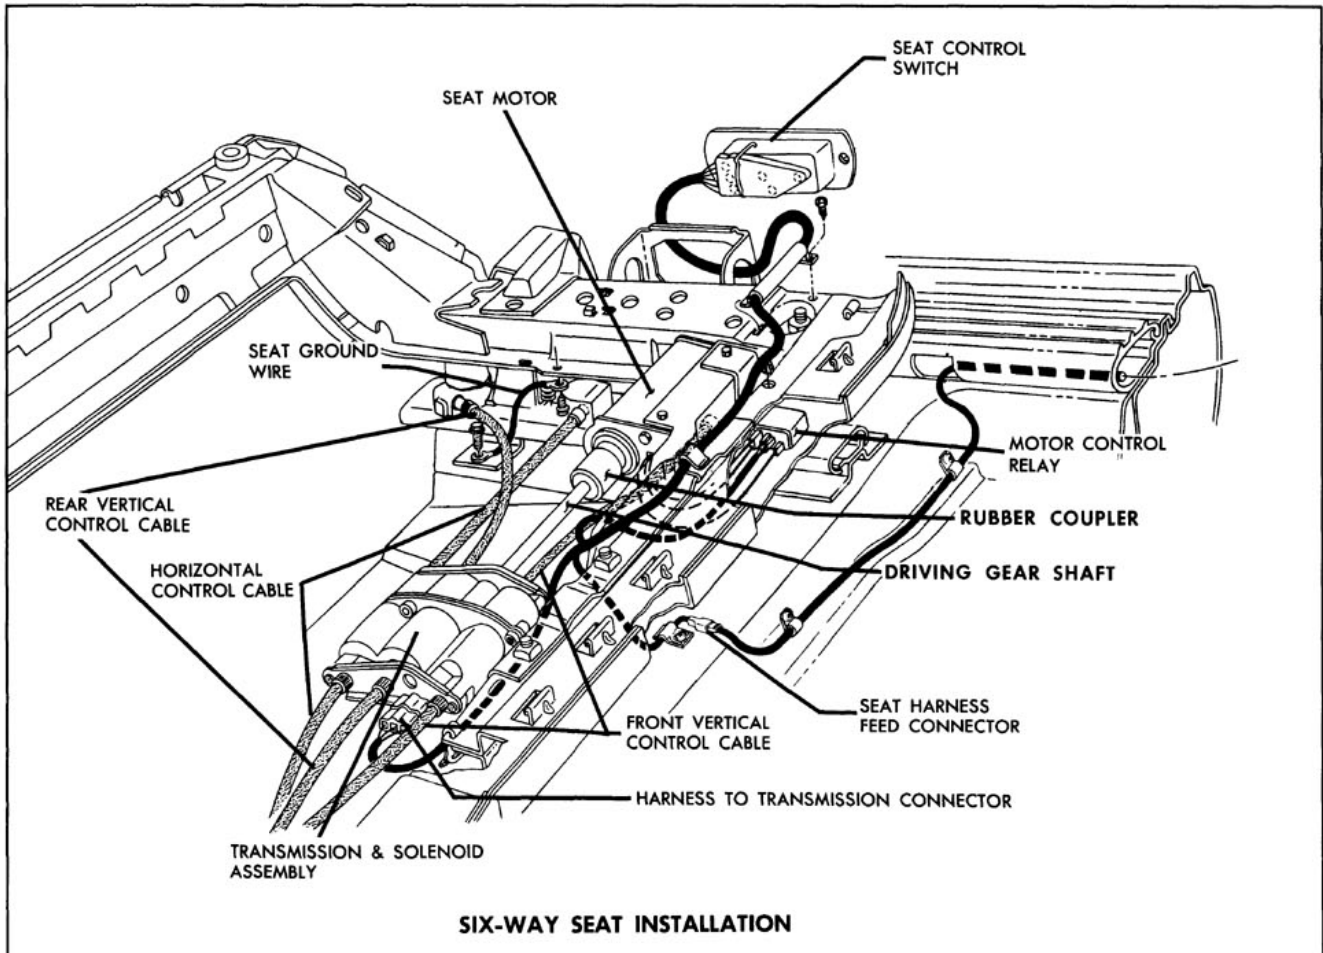

Fig. 16-97 Six-Way Seat Installation
The solenoid which operates the blue drive cable (Fig. 16-97), controls the vertical movement of the rear edge of the seat. The solenoid which operates the black drive cable, controls the horizontal movement of the seat. The solenoid which operates the yellow drive cable, controls the vertical movement of the front edge of the seat.
2. Detach the three power drive cables from adjuster to be removed. (Fig. 16-97)
2. Disconnect motor feed wires from motor control relay. (Fig. 16-97)
reverse removal procedure. Make sure colored drive cables are installed to proper gearnuts and horizontal actuator as shown in in Fig. 16-97.
2. Disconnect wire harness connector from transmission. (Fig. 16-97)